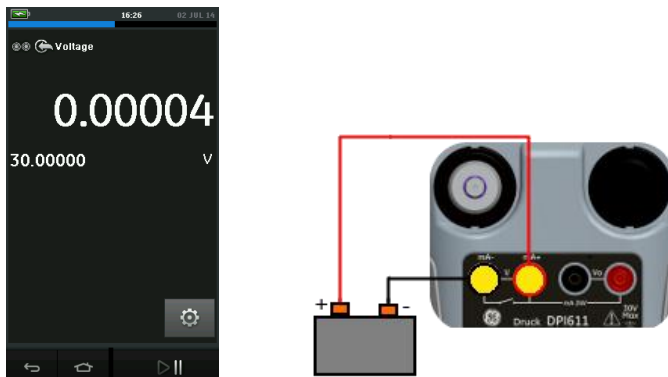

Figure 2-21 Measure DC Volts or DC mV on CH1.
- *Figure 2-21* shows CH1 set-up to measure a DC voltage (± 30 V) or DC mV (± 2000 mV).